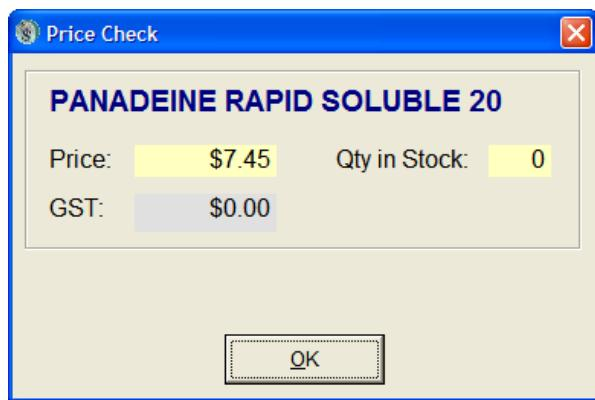

Figure 44
3. The items Price, Stock on hand and GST status will be displayed (as shown in Figure 44).